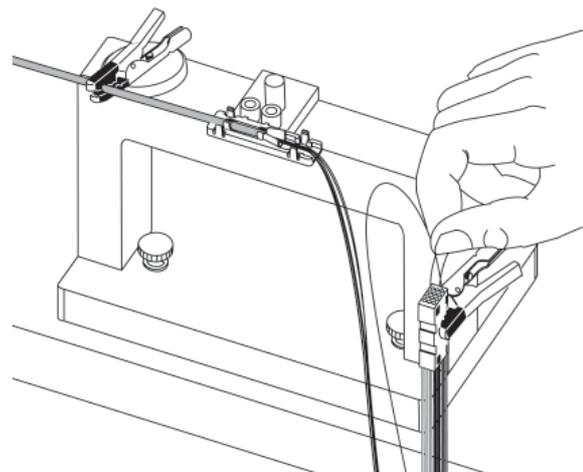

Figure 15
**7.2** Carefully thread about three inches of the first fiber into the #1 900 μm tube (Figure 15).